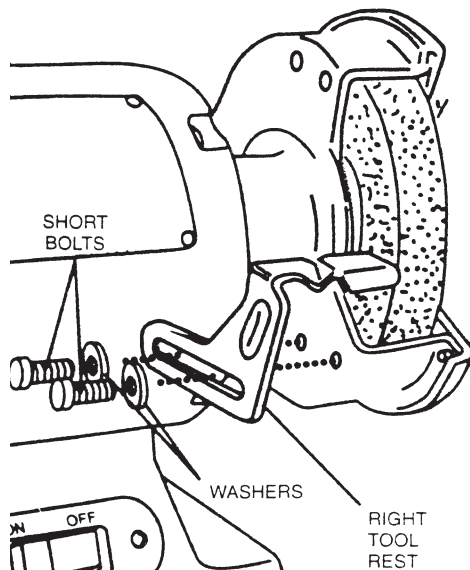

FIGURE 1
shown in Figure 1. Use bolts and washers to secure them in place as shown in Figure 1.
**Note:** There is a left and a right tool rest. Refer to Figure 1 to be certain that you install them correctly.